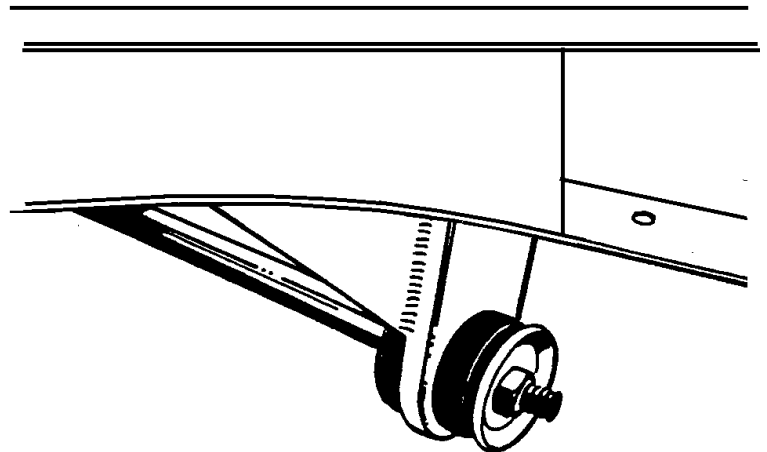

Figure 8
10. Install the strut rod onto the control arm. Now, assemble onto the strut rod the large rubber bushings, including the cupped washers, and the strut mount plate. Be certain to fully tighten the nut on the strut rod to its' fully seated position. See Figure 8. There are two rubber bushing sets available; the standard replacement and the improved set. We recommend the improved set, as it provides more stability to the front suspension. The Pinto and Mustang strut rods are different lengths. We recommend the use of Pinto strut rods, as they are bent less than the Mustang strut rods. You will find that with either strut rod the strut rod plate does not line up with the bottom of the frame rail. The strut rod must be heated in the elbow area and bent outward. The rod is bent outward until the strut mounting plate lines up to the frame rail. You will find that because the Pinto strut rod is initially bent less and requires much less bending. The strut rod will act as an alignment fixture while you tack weld the mount plate in place, then tack weld the gusset in place. Remove the strut rod, bushings, and arm, and finish welding to the frame and each other.